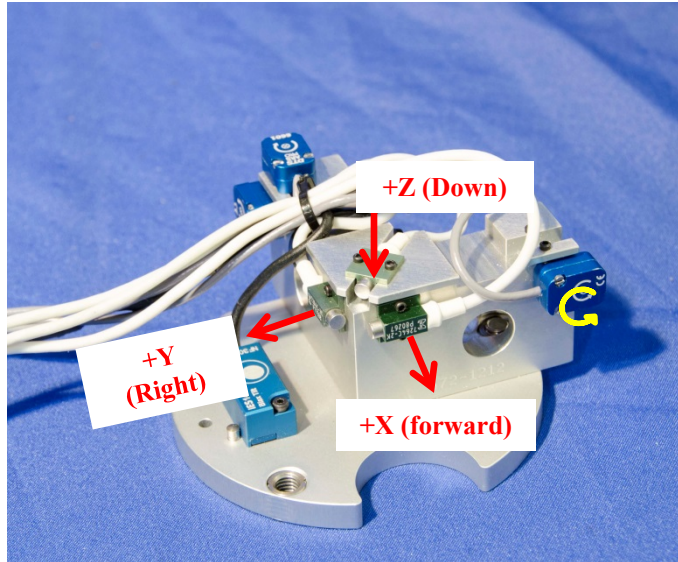

Figure 3-5. Accelerometer and angular rate sensor configuration
- 3.2.2.2 The 7 accelerometer-array fixture (472-1212) holds three uniaxial accelerometers at the CG of the head (Figure 3-5). Install each accelerometer using two M1.4 x 0.3 x 3 SHCS. Orient the three head CG accelerometer units: +X to the front, +Y to the right, and +Z down.